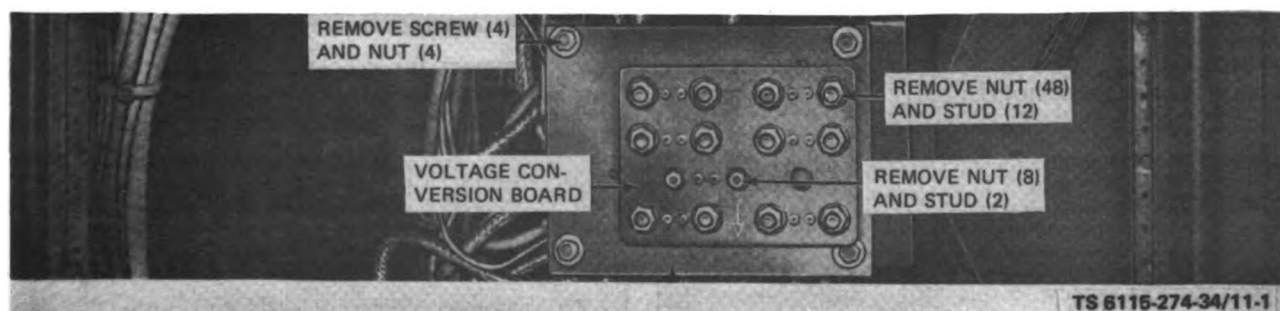

Figure 11-1. Voltage Conversion Board, Removal and Installation
- (1) Tag and disconnect electrical leads (fig. 11-1).
- (2) Remove nuts and studs and remove voltage conversion board.
- (3) Remove screws and nuts and remove terminal board.